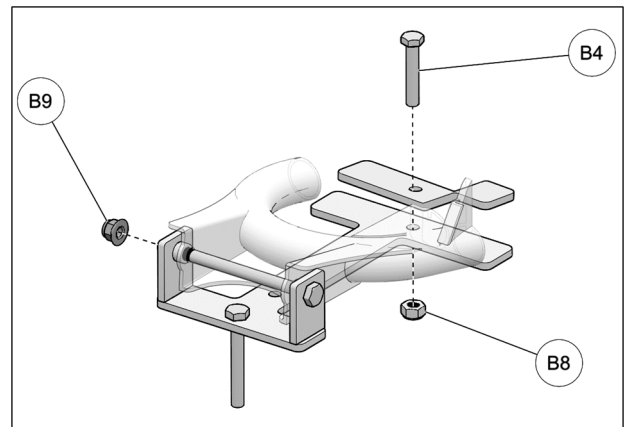
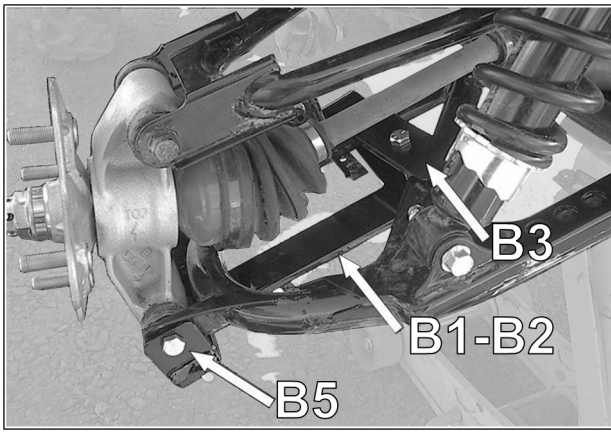

Fig. 9
Fig. 10
- Secure bracket and cover together with bolts (**B4-B5**) and nuts (**B8-B9**) provided. Tighten bolts to 50 N•m [37 lb•ft] of torque. See Fig. 9 and Fig. 10